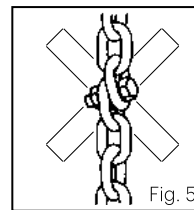

Fig. 5
- **Do not** knot or shorten the load chain by using bolts, screws, screw drivers or other devices (See Fig. 5).